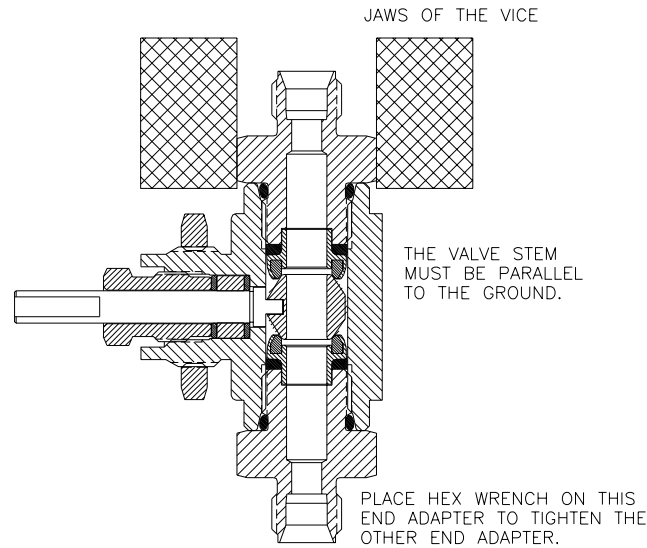

Figure 4: Position of Valve Body during tightening of End Connectors
18. Secure one End Connector (not the Valve Body) of the Ball Valve so that the Stem is horizontal, as illustrated in Figure 4.
**WARNING:** It is IMPERATIVE that two (2) conditions exist during the tightening of the End Connectors. Failure to adhere to these two conditions may result in damaging the Valve during tightening of the End Connectors.